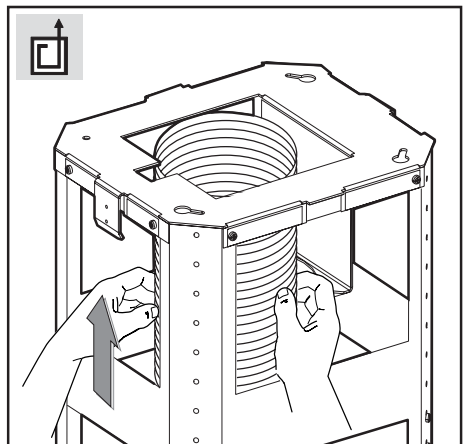

Fig.7
- **Ducted version:** fix the flexible pipe to the prepared air evacuation hole (fig 7).